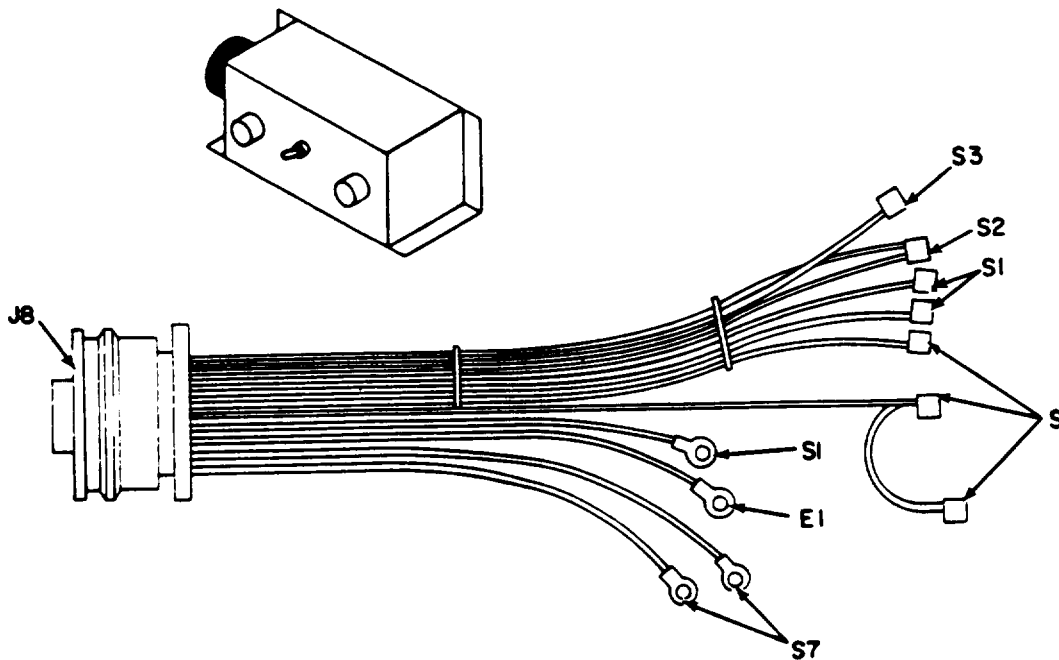

Figure 4-19. Wiring Harness (Control Panel).
13. Remove four screws, lockwashers, and flat washers and harness (See Figure 4-19).